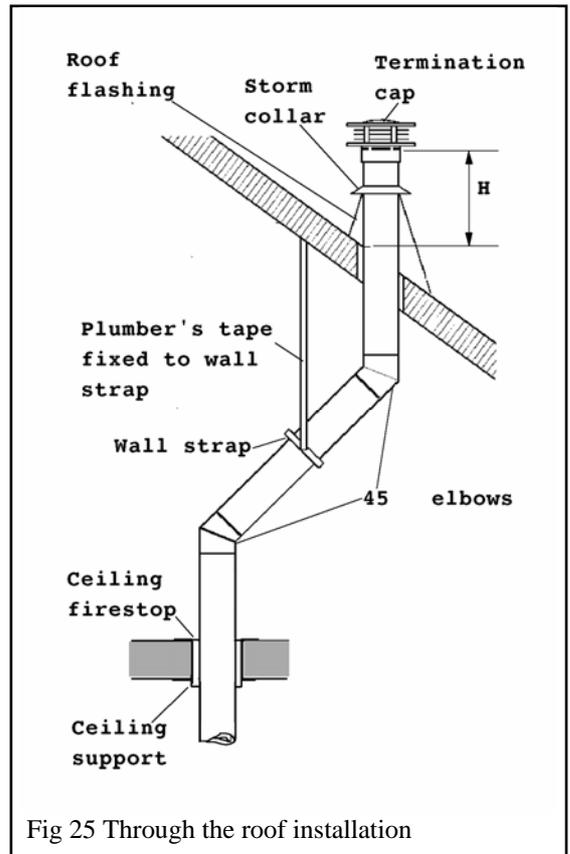

Fig 25 Through the roof installation
- The distance from the roof to the lowest terminal discharge opening (“H” in figure 25) depends on the roof pitch and must be in accordance with the Dura-vent instructions supplied with the termination unit.
- Determine the position where the vent will pass through the roof. If directly above the position where it penetrates the ceiling, drop a plumb from the roof to the small hole in the ceiling and mark the roof at this spot. If rafters or other obstructions will prevent a vertical exit or if clear attic space is desired, the roof outlet can be offset using 45° elbows - see fig. 25.
- Fit vent accessory elbows and pipe lengths as required up through ceiling support boxes and firestops. If installation includes offset, support the offsetting pipes every 3 feet (1m) with wall straps (fig. 25).